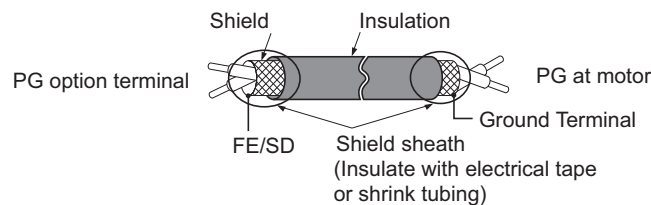
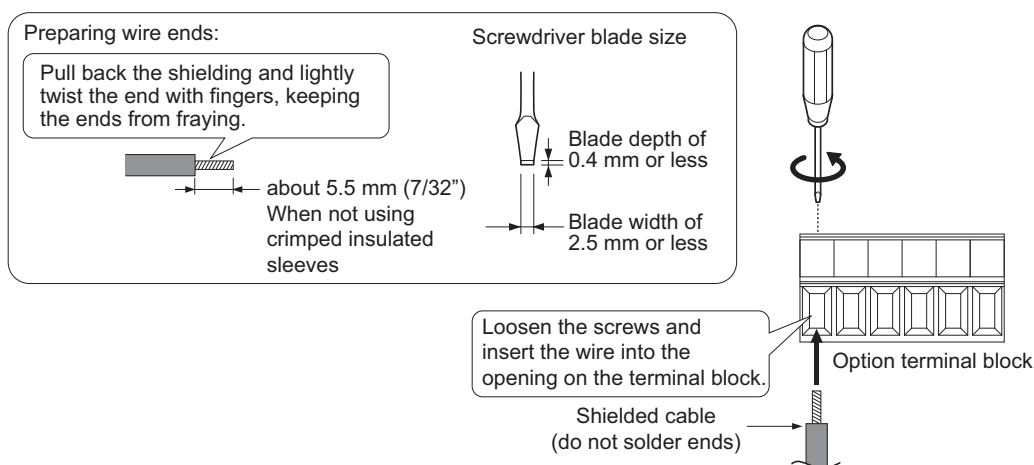

Figure 8.6 Preparing Ends of Shielded Cable
Figure 8.7 Preparing and Connecting Cable Wiring
2. There are two screw holes on the drive for use as ground terminals (I). When connecting three options, two ground wires will need to share the same drive ground terminal.
4. Prepare and connect the wire ends as shown in Figure 8.6 and Figure 8.7. **Wire Gauges and Tightening Torques on page 321** to confirm that the proper tightening torque is applied to each terminal. Take particular precaution to ensure that each wire is properly connected and wire insulation is not accidentally pinched into electrical terminals.